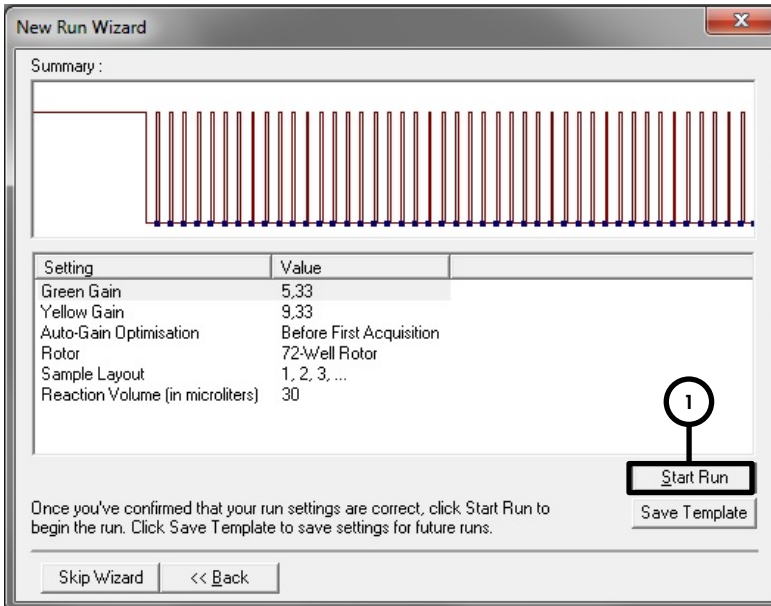

Figure 8. Starting the run.
Starting the run	Figure 8
11. The gain values determined by the channel calibration are saved automatically and are listed in the last menu window of the programming procedure (Figure 8). Click **Start Run**.